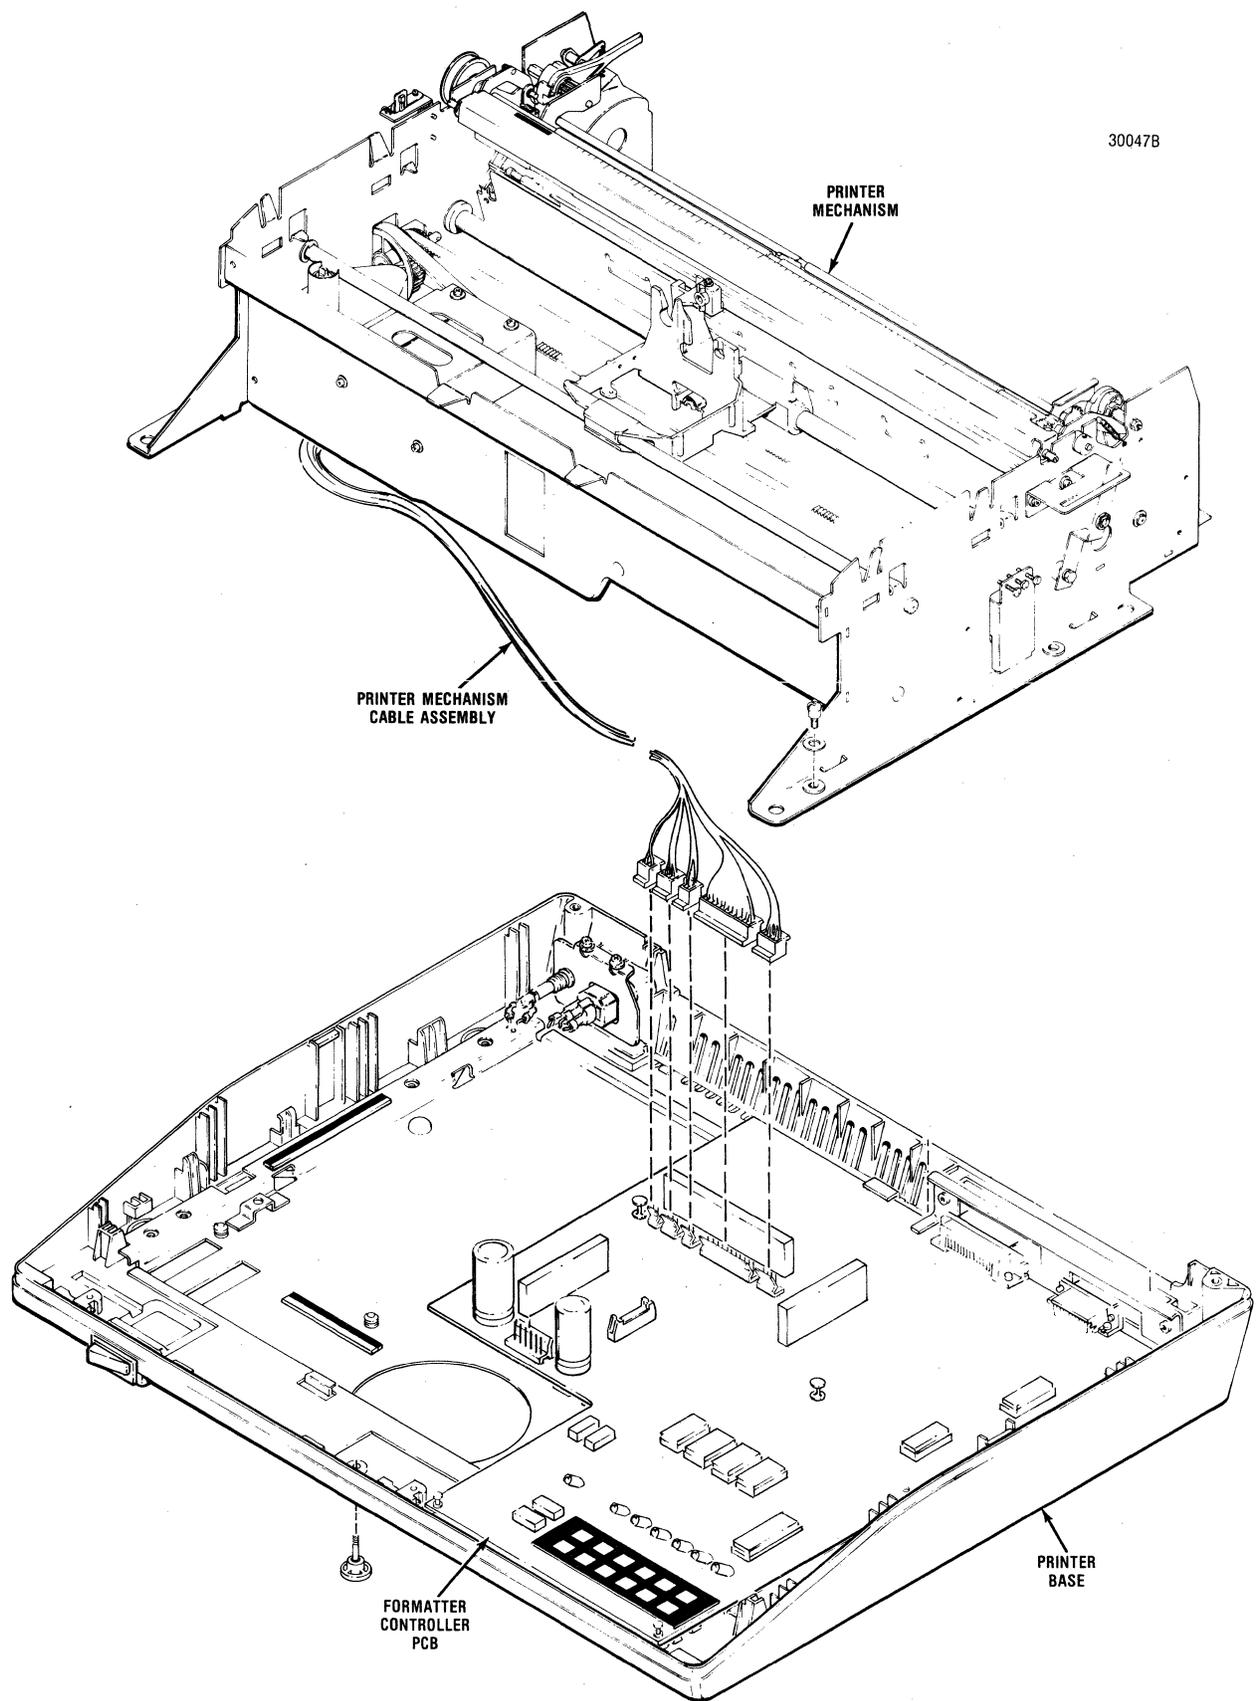

Figure 5-7 Removing Printer Mechanism
5.10.2 REMOVING PRINTER MECHANISM—The mechanism is removed using a Phillips head screwdriver. To remove the printer mechanism, refer to Figure 5-7 and perform the following steps: